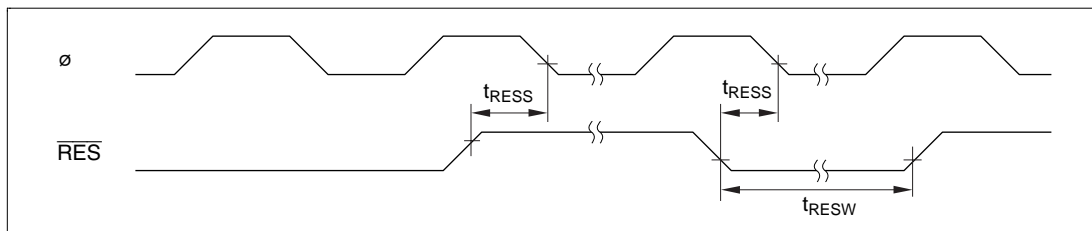

Figure 19.6 Reset Input Timing
19.3.2 Control Signal Timing	Figures 19.6 to 19.9